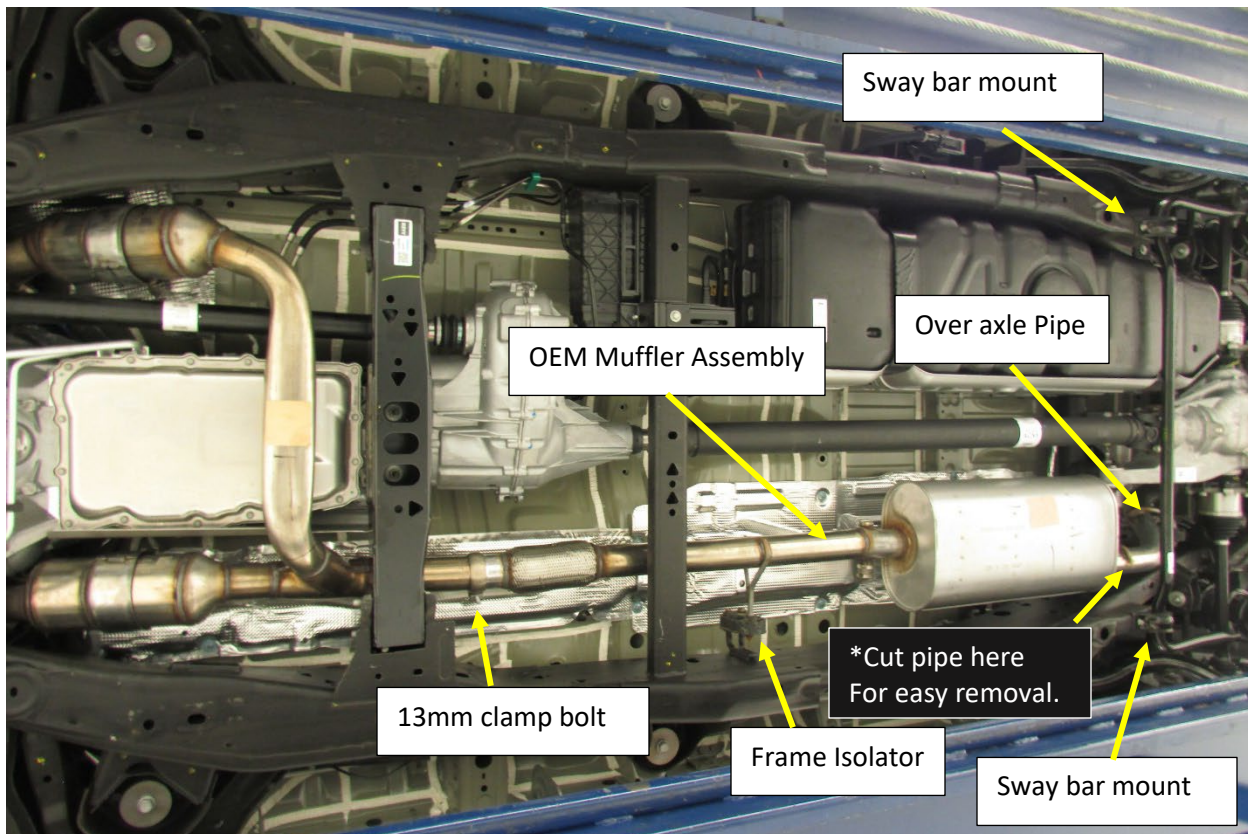

Figure.2
4. Remove the 2x bolts at each Sway Bar mount on the frame rail. This will provide added room to remove the OEM muffler from the vehicle. **Fig.2**
5. Cut the outlet pipe just after the muffler to simplify removal (**skip to Step. 7 if not cutting**). Remove the hanger rod isolators and remove the over axle pipe. **Fig.2**
7. Loosen the 13mm bolt on the band clamp just before the flex section of the OEM muffler inlet pipe. remove the isolator(s) on the frame rail and remove the OEM muffler assembly. **Fig.2**